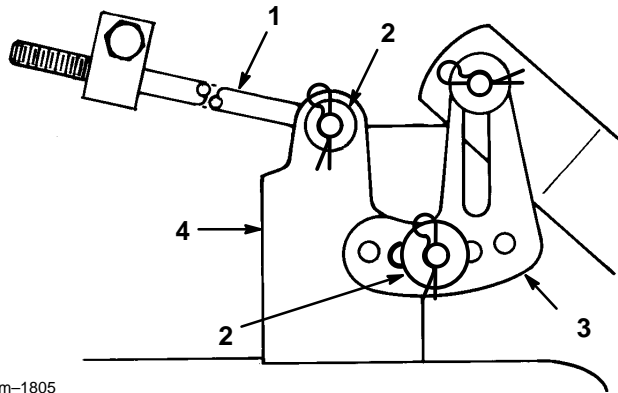

Figure 43
7. Slide the end of the long rod through the hole in the mower mount (Fig. 43). Install the washer and hair pin cotter to secure the rod in place. Repeat this step on the opposite side of the mower.
8. Mount the slotted mower leveling bracket onto the pin on the height-of-cut arm (Fig. 43). Install the washer and hair pin cotter to secure the mower. Repeat this step on the opposite side of the mower.